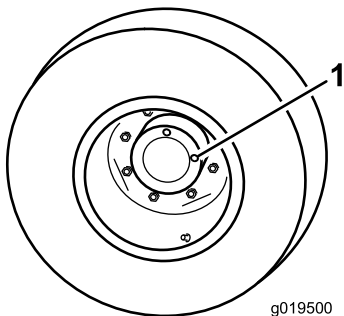

Figure 61
1. With machine on level surface, position the wheel so one check plug (Figure 61) is at the 12 o'clock position and the other is at 3 o'clock position.
2. Remove the plug at the 3 o'clock position (Figure 61). Oil level should be within 6 mm (1/4 inch) of the check plug hole.